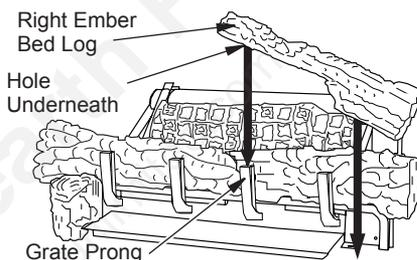

Figure 42 - Installing Right Ember Bed Log
5. The right ember bed log 24" & 30" (D-047) has a hole in the log that sets on the grate finger and the other end rest on the fireplace floor, place log as shown in Figure 42. The right ember bed logs for 18" (D-072) has a groove on the side that sets on the ember bed pan and the back of the log needs to rest against the front of the base. Make sure the flame from the ember pan does not touch the ember bed log. The back side of this log needs to rest against the front of the base assembly, make sure the flame from the ember pan does not touch the ember bed log.